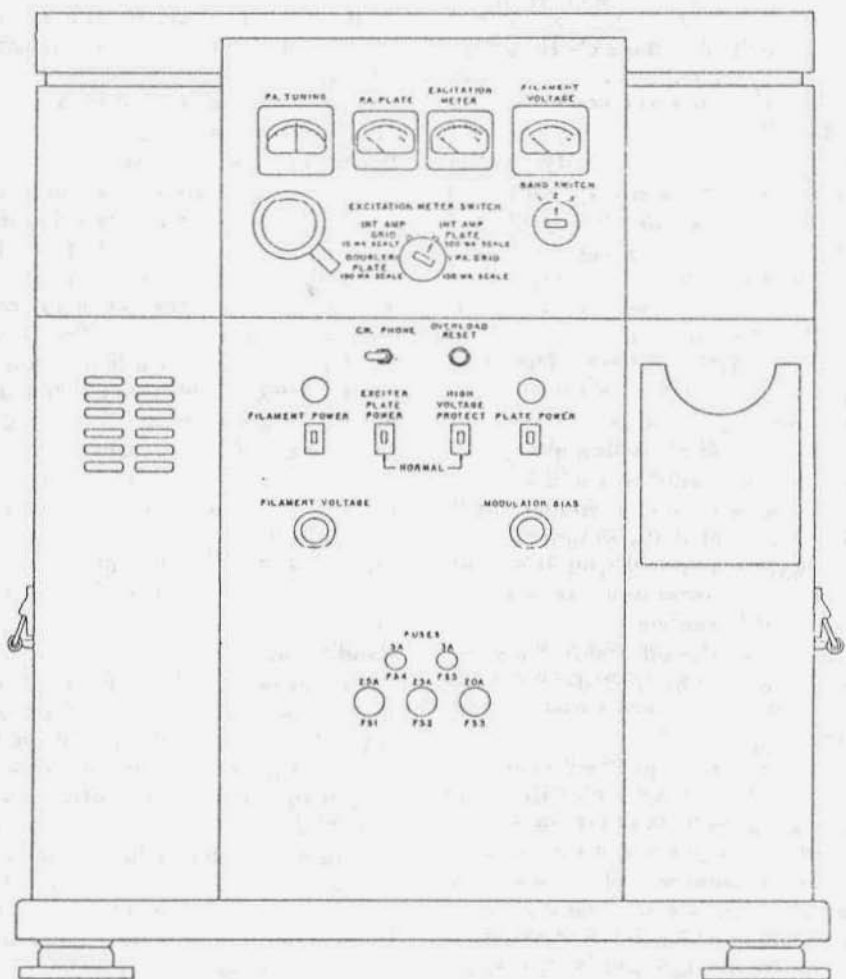

Figure 5. Pictorial representation of the location of front panel controls for the BC-610E [from DOA manual, TM 11-826, 1952, p. 23]
Figure 5 depicts the front panel of the BC-610E, including the location and
name of each control. A pocket shown on the right holds tuning charts, which indicate approximate dial settings of all controls for frequencies between 2 MHz and 18 MHz. The data in Figure 5 provide a framework for identifying electronic functions associated with each control, and thereby, for describing comprehensively the major characteristics of the transmitter. The exposition below proceeds downward from the top, left to right, row by row:
The top-left of Figure 5 shows the Power-Amplifier (PA) illuminated tuning dial, scaled 0-100 over 180 degrees, and, beneath the dial, a circular, 2-1/2 inch, silver-plated PA tuning control. The latter is geared so that slightly more than four revolutions are required to cover the 0-100 scale.
The first of the three meters shown in Figure 5, which is to the right of the tuning dial, indicates PA plate current on a 0-500 milliamperere (mA) scale.
This four-position switch (top-center of the panel) determines which of four exciter functions is read by the middle of the three meters shown in Figure 5. The meter possesses [BC-610E only] three direct reading scales: 0-15 mA, 0-150 mA, and 0-300 mA. In position "1," the meter measures the 6L6 buffer-doubler plate current on its 0-150 mA scale. In position "2," it measures the grid current of the parallel 807 IPA stage on its 0-15 mA scale. In position "3," it measures IPA plate and screen current on its 0-300 mA scale. In position "4," it measures PA grid current on its 0-150 mA scale.
This switch is located in Figure 5 at the left of a row of two switches placed below the RF controls. It is a four-pole, double-throw, toggle switch, although only three poles are used. Two parallel poles carry the plate transformer primary current. In the CW position, less of the primary winding is used, which leads to higher secondary plate voltage (2,500 volts); in the phone position, the entire primary winding is used, which results in less plate voltage (2,000 volts).
This switch is located to the right of the "CW/Phone" switch in Figure 5.
The "filament power" switch is in the center of the BC-610E panel, at the left of the four switches in a row (see Figure 5). It activates the filament transformers, the bias supply, and a one-inch green pilot lamp (the pilot lamp is directly above the switch). It also energizes both filament and plate power in the separate speech amplifier when it is used in conjunction with the BC-610 modulator.
This switch is second from the left in the row of four switches, center of panel (see Figure 5). It controls the exciter power supply, which furnishes regulated screen (VR-150) and plate (two VR-150s in series) voltages for the 6V6 oscillator, and unregulated plate voltage of about 450 volts for the 6L6 buffer-doubler and the parallel 807 IPA tubes. In the "up" position, the power supply is energized; in the "Normal" or "Down" position, voltages are removed unless activated by a key or microphone switch.
AC input to the primary winding of the plate transformer of the BC-610E is altered by the third switch in the row of four switches, center of panel (see Figure 5). It works in tandem with the "Plate Power" switch. The "High Voltage Protect Switch," when in the protect position (up), places a 16 ohm, 600 watt, nichrome wire heating coil in series with the primary winding so that rectified secondary voltage applied to the PA is reduced during tune-up. When the switch is in the "NORMAL" (down) position, the heating coil is shorted and
The "Plate Power" switch, fourth in the row of switches, center of panel (see Figure 5), activates (up position) a plate-power DPST on-off relay and a DPDT antenna-shorting relay. One pair of contacts of the plate-power relay closes to energize the high-voltage transformer, which applies plate power to the 100THs and the 250TH; another pair of contacts on the relay parallels the "exciter plate power" switch, and upon closing, applies power to the exciter and an antenna-shorting relay. The closed contacts of the latter open and remove a short circuit across the link coupling coil of the PA tank circuit. When this relay is de-energized, the shorted contacts prevent absorption of RF energy by the PA tank circuit when the transmitter is not in operation—a practical design strategy since transmitter and receiver, say in an SCR-299, used separate antennas.
The AC voltage input to the filament transformers collectively is regulated by a 15 ohm, 50 watt variable resistor, located on the left of the panel, beneath the "filament power switch" (see Figure 5). A 0-10 volt AC "Fil Voltage" meter (the third meter in the row of meters) measures the voltage at the tube socket filament pins of the 250TH PA, where 10.5 amperes are drawn.
A 500 ohm, 50 watt variable resistor, the "Modulator Bias Control" (front panel, right-center, Figure 5), is used to set a no-signal bias of 40 mA for the 100TH, Class B, modulator tubes. A 0-300 mA meter, located in the speech amplifiers, monitors the plate current of the modulator tubes. During CW operation, the arm of the Bias Control Resistor is disconnected by contacts on the relay controlled by the CW/Phone switch. The total output voltage of the bias power supply is then applied to the grids of the 100THs, which is sufficient to cut off entirely modulator plate current.
Five fuses are used in the AC power circuits of the BC-610 (see bottom-center of the front panel, Figure 5). A 25 ampere fuse is in each side of the 115 volt AC input. A 20 ampere fuse protects the HV power supply. A five ampere fuse protects the filament trans-
Three interlock switches (not shown in Figure 5), one for each of two small lids on the top cover of the BC-610, which provide access, respectively, for changing the plate tank coil and adjusting the RF exciter tuning units, and one for the entire top cover of the transmitter, are wired in series so that when any one is open, power circuits are disabled. A fourth interlock switch located on the side of the modulator deck, at the rear of the transmitter, is also in series with the above three switches; its purpose is to prevent power circuits from being energized should the rear panel be removed.